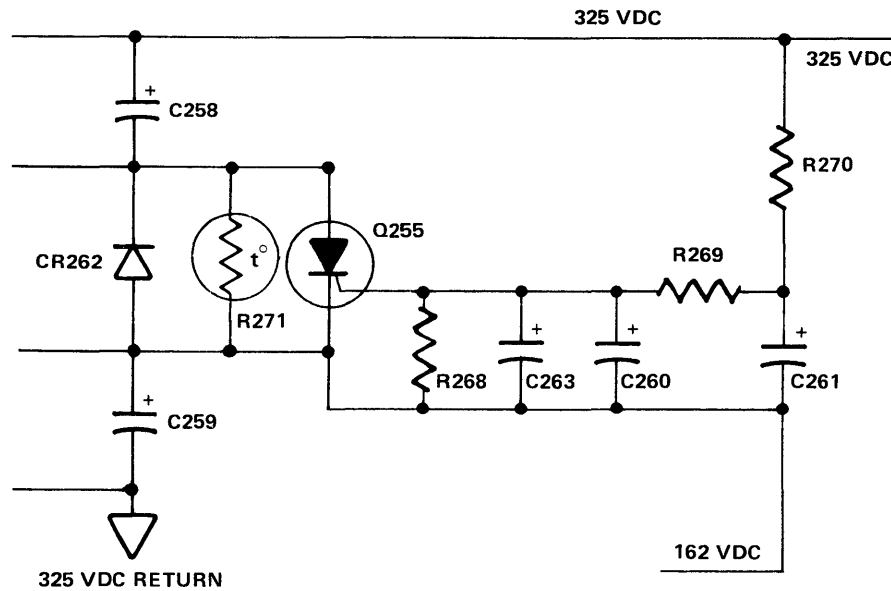

Figure 4-4 Soft-Start Circuit
4.2.2 SOFT-START CIRCUIT. During power-up initial current surge is limited by resistor R271 in the soft-start circuit as shown in Figure 4-4. After a safe period, when capacitors C258 and C259 are charged, SCR Q255 fires and bypasses R271 for more efficient operation. Resistors R269 and R270 with capacitor C261 provide the RC time constant delay used to fire the soft-start SCR. R268 and C260 filter the voltage on the gate of Q255, CR262 provides a low-impedance path around R271 when C258 and C259 discharge. C263 provides transient protection to prevent false triggering of Q255.